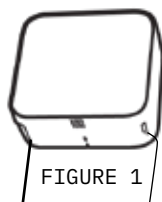

FIGURE 1
a) Spool up any excess fiber onto the fiber spool. Place the cover on the module, taking care to place the fibers in the appropriate slot and not pinching the fibers (see Figure 1).